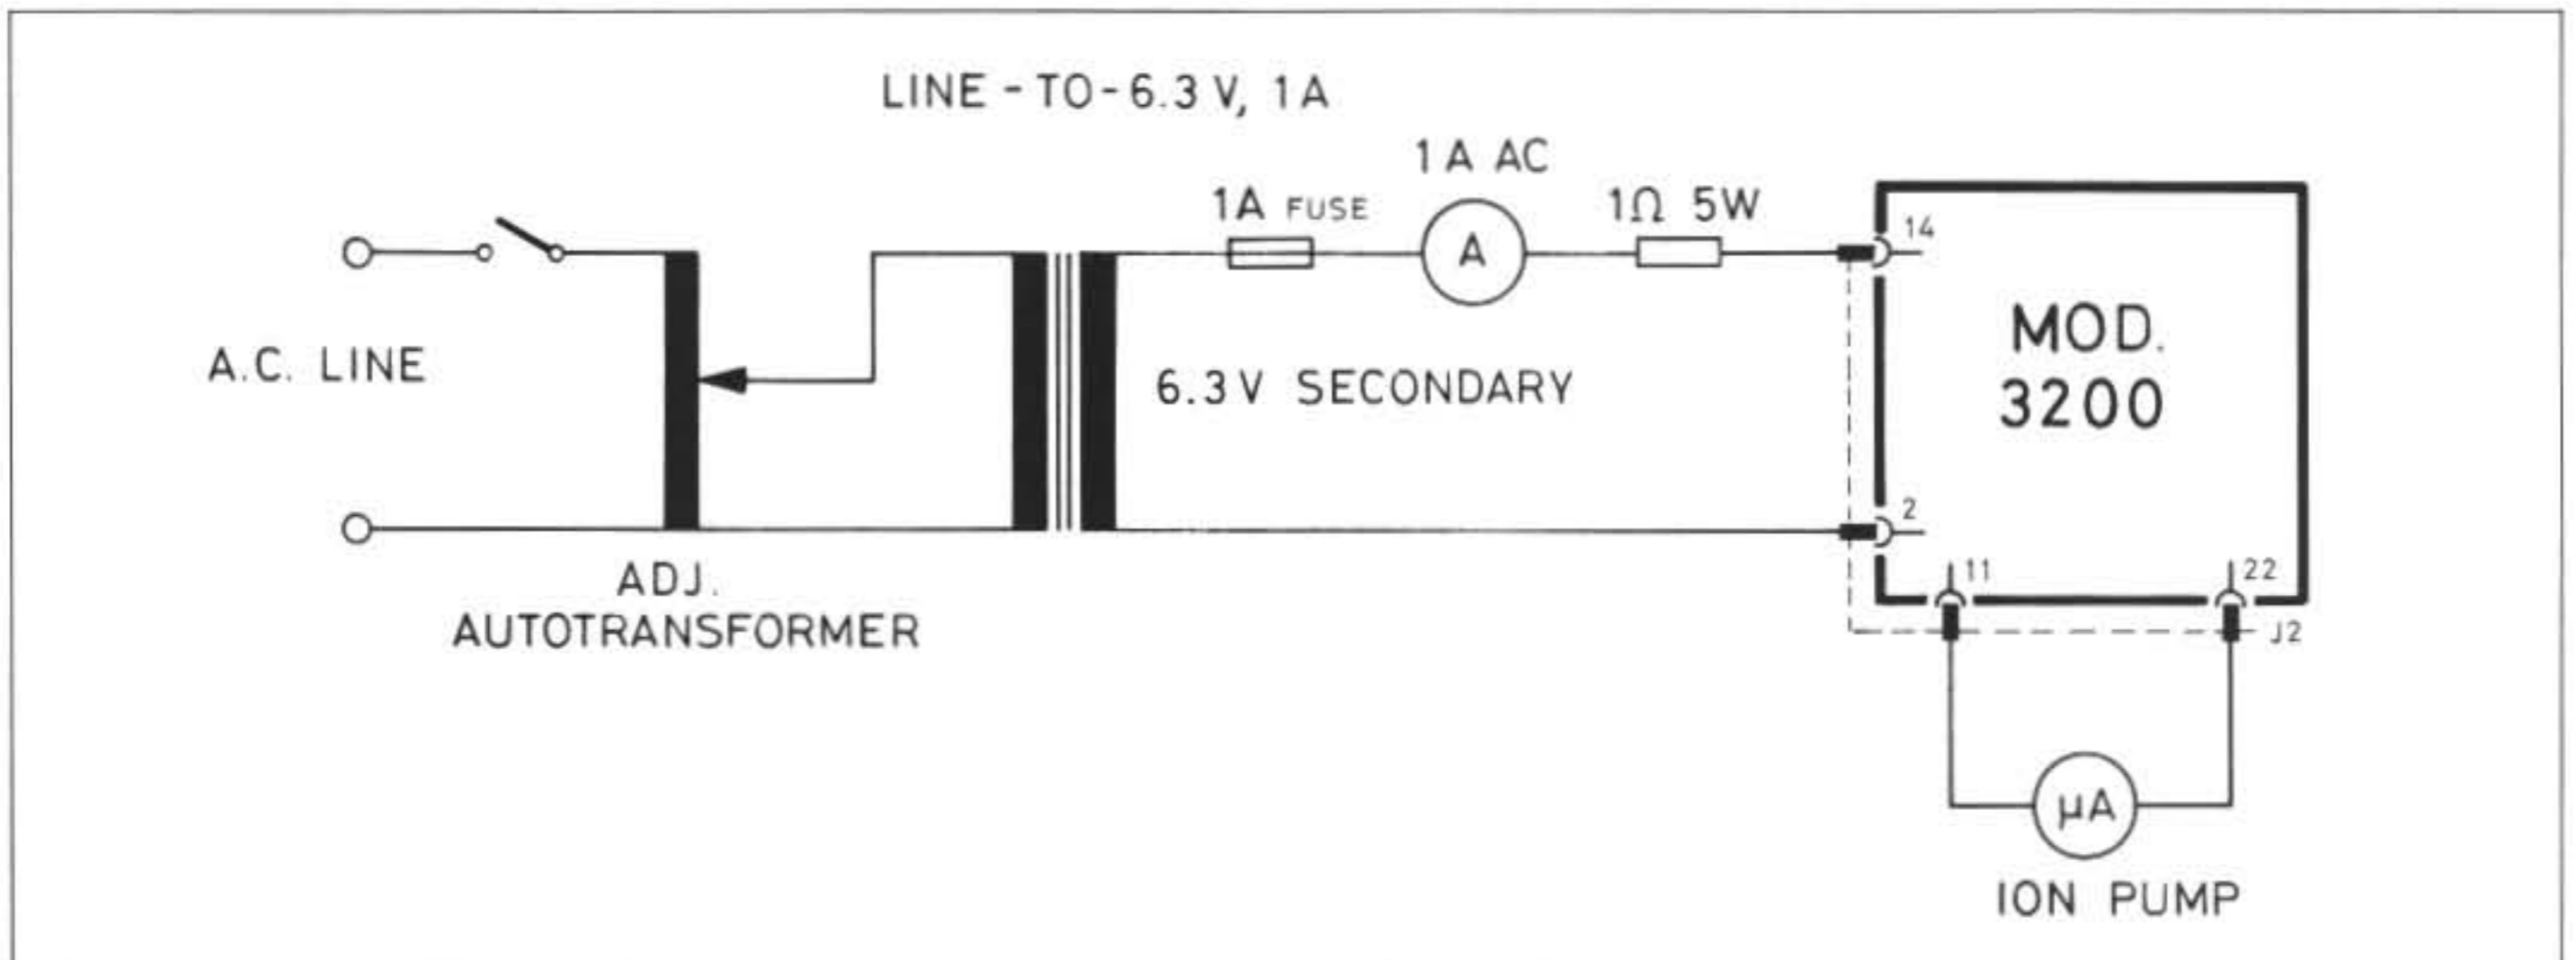

Fig. 23
- b) with the following equipment connected as shown in figure 23.